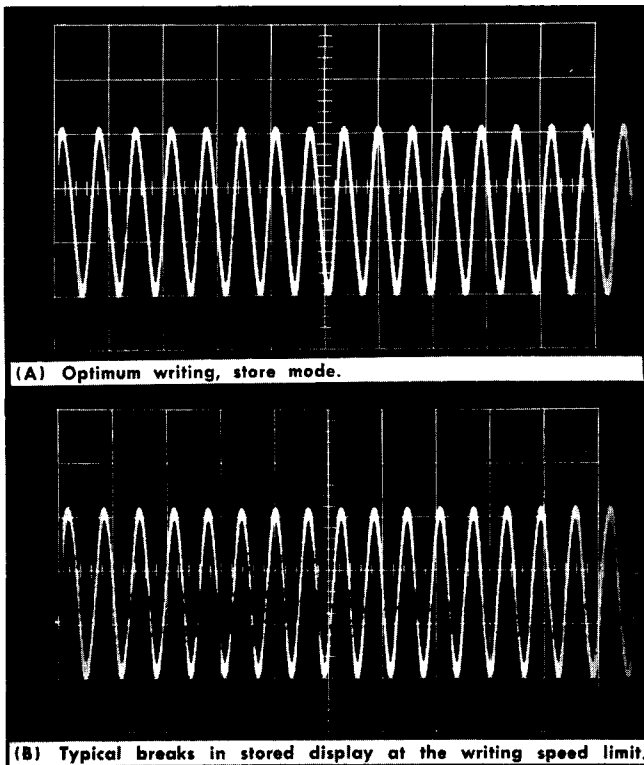

Fig. 6-53. Typical display when measuring writing speed.
f. Adjust the INTENSITY, FOCUS and ASTIG controls for optimum writing speed. Fig. 6-53.
g. Check the stored display for breaks greater than 0.025 inch (see Fig. 6-53). Writing speed in $\text{cm}/\mu\text{s} = \text{Frequency in MHz} \times \pi \times \text{signal amplitude in cm}$. Since signal amplitude is 3.2 cm, writing speed equals frequency in $\text{MHz} \times 10$. Writing speed must equal or exceed $0.5 \text{ cm}/\mu\text{s}$.